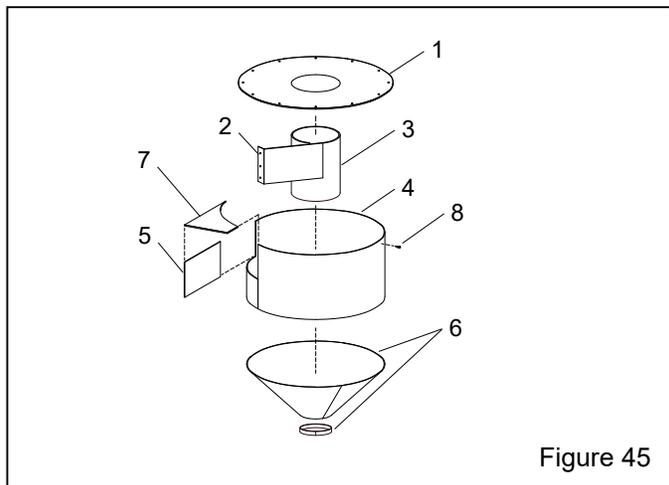

Figure 45
9.13 Reclaimer Liners – Figure 45